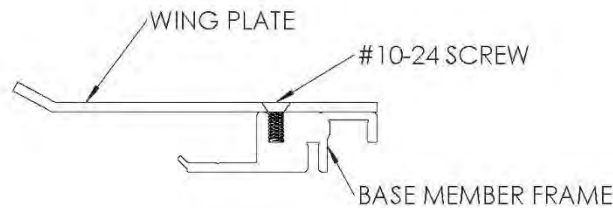

FIGURE 8
1. Remove the factory installed #10-24 screw that attaches the wing plate to the base member frame and retain for reinstallation later. *Note: In the 2" and 4" size this step is not necessary as the wing plate and frame are one piece. See Figure 8*